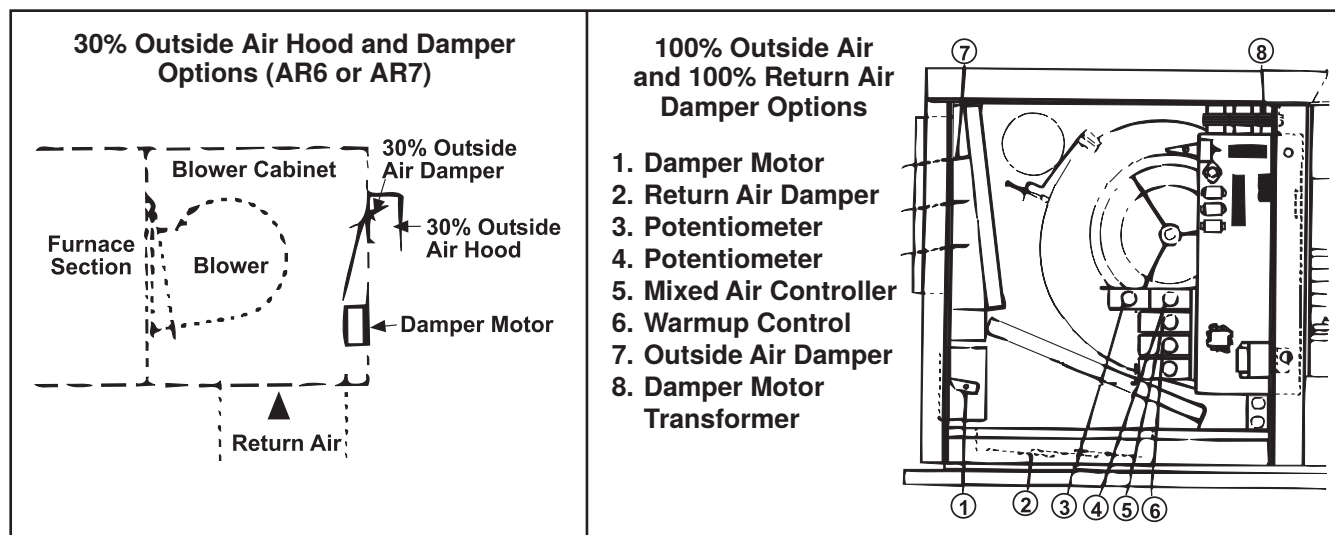

Figure 33. Damper Controls
- For specific damper control options (see Figure 33), refer to the wiring diagram provided with the unit. To adjust dampers, refer to the Damper Linkage Adjustment section.